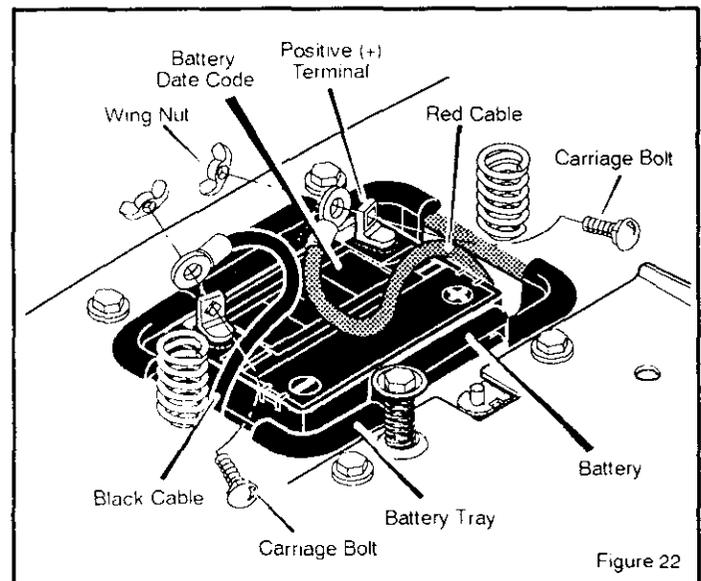

Figure 22
1. Disconnect the black cable from the negative (-) terminal (Figure 22).